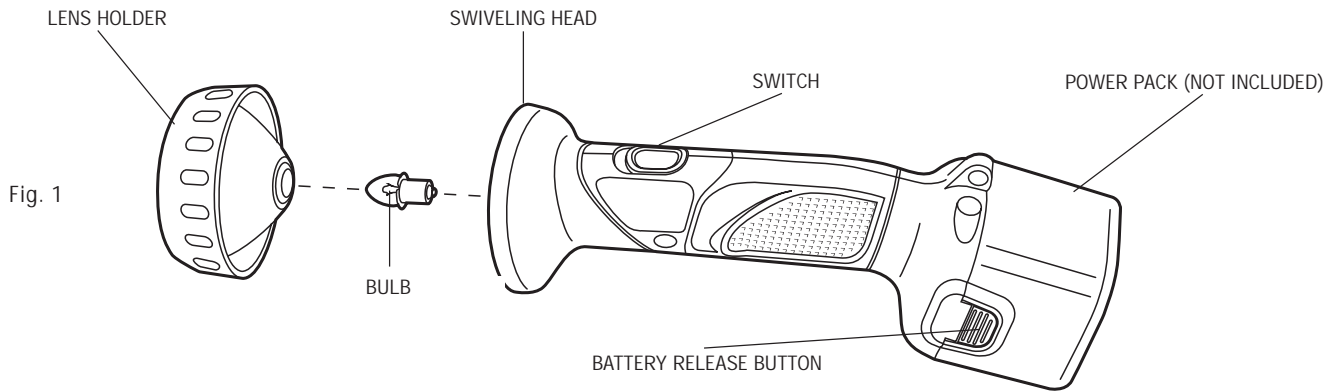

Fig. 1
2. Insert the battery pack into the charger, as shown in Figure 1, making sure the pack is fully seated in the charger. The red (charging) light will blink continuously indicating that the charging process has started.
2. Insert the battery pack into the charger, as shown in Figure 1, making sure the pack is fully seated in the charger. The red light will blink and the charger will beep once indicating the charging process has started.